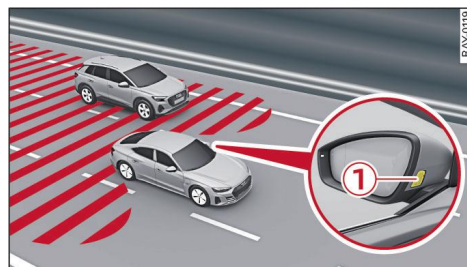

Fig. 118 Driving situation and warning signal on exterior mirror
- The area covered by the sensors ⇨ *Fig. 118* is an example and does not represent the range of the sensors to scale.